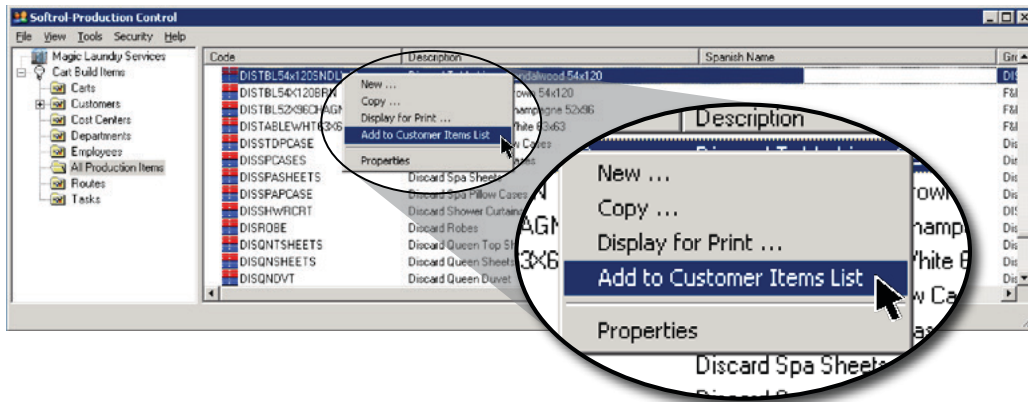
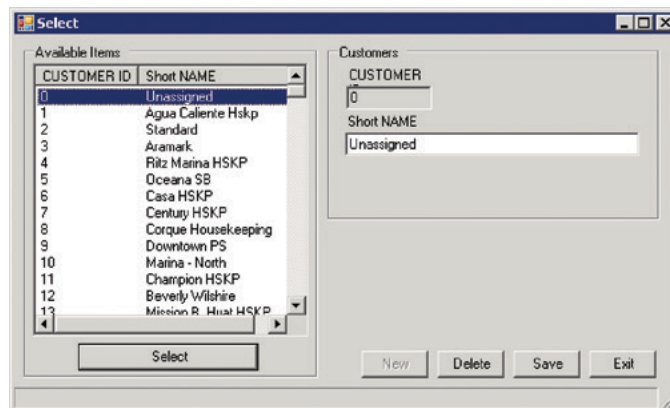

Figure 15. Right-click an item and select **Add to Customer Items List**.
Figure 16. *Customer Selection* dialog.
2. Right-click the item in the list and Select **Add to Customer Items List** (see Figure 15) to open the *Customer Selection* dialog (see Figure 16).